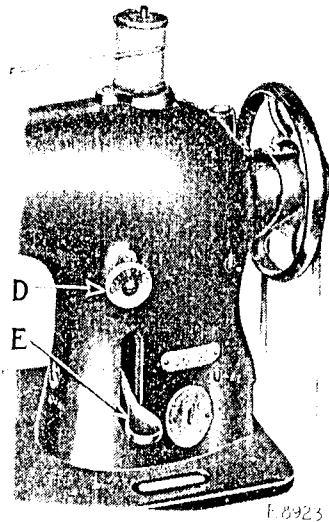

FIG. 14. SHOWING LEVER FOR REVERSING DIRECTION OF FEED ALSO STITCH REGULATOR ON MACHINES 96-12 AND 96-16
The length of stitch is regulated by the thumb screw (D, Fig. 14) at the front of the machine. This thumb screw is marked with numbers denoting from one to five millimeters, and when the number or fraction is directly opposite the lock pin, the machine will make stitches of corresponding length. Move the feed reversing lever (E, Fig. 14) to a central position in the slot. To lengthen the stitch, turn the thumb screw (D) over to the left. To shorten the stitch, turn this thumb screw over to the right. When the desired length of stitch has been obtained, move the feed reversing lever (E) back to its original position.
moving the lever (E, Fig. 14) in the slot at the front of the machine. To feed the goods from you, raise the lever (E) to its highest point. To feed the goods toward you, depress the lever (E) to its lowest point.